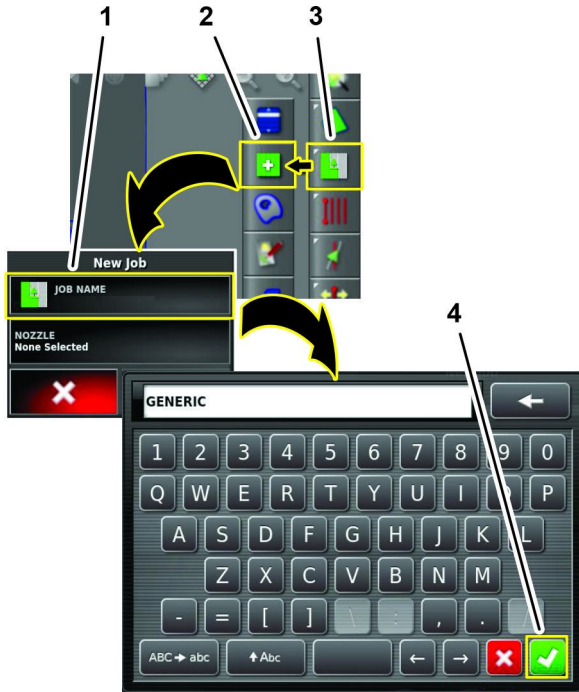

Figure 199
1. Press the Job Menu and press the CREATE NEW JOB icon (Figure 199).
2. Use on-screen keyboard to type a name for the generic job, and press the confirm icon (Figure 199).